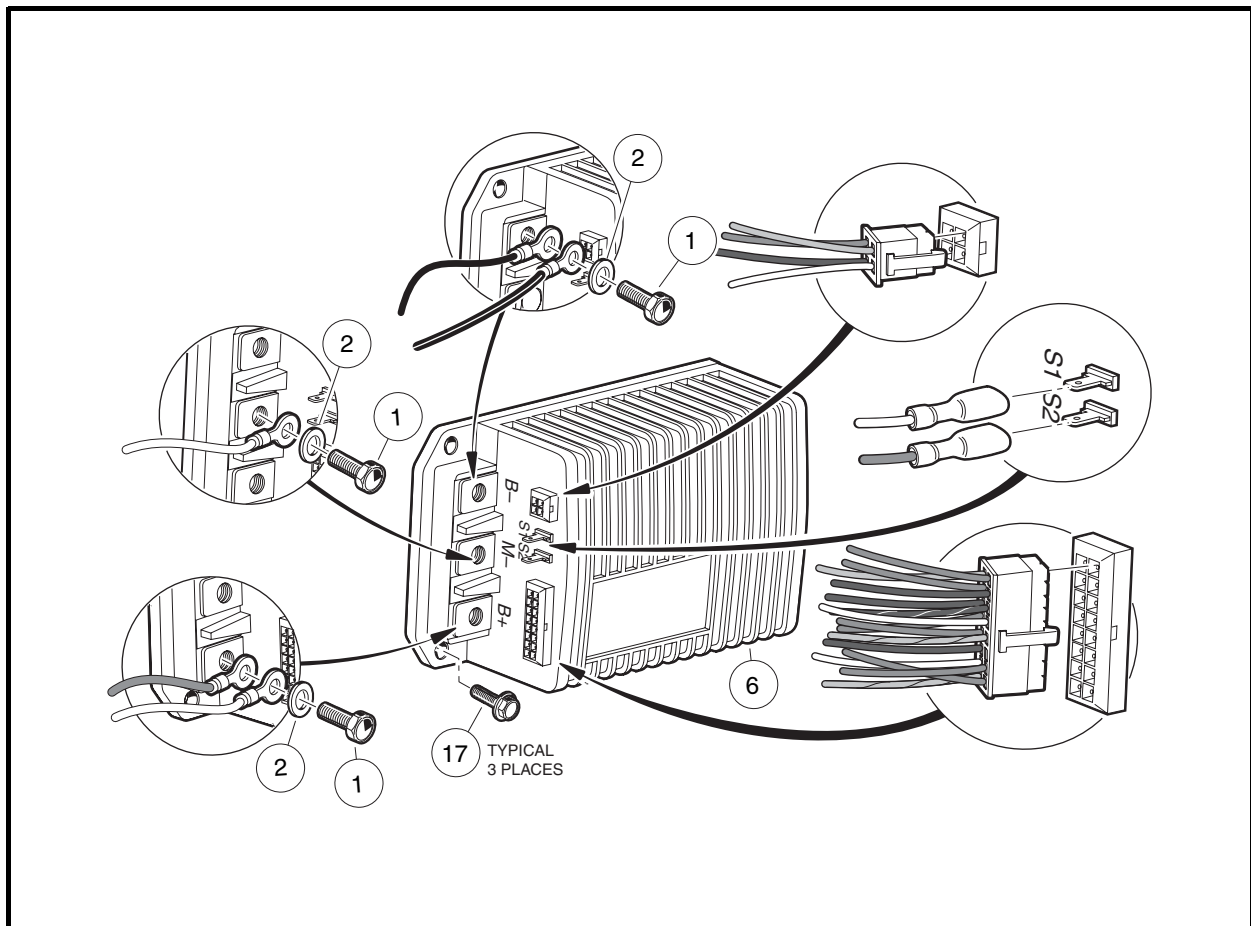

Figure 13-8 Speed Controller
4. Disconnect all wires and multi-pin connectors from the speed controller (**Figure 13-8, Page 13-10**).
5. Remove the three self-tapping screws (17) that hold the controller (6) to the component mounting plate and remove the controller from the vehicle.
1. Install the three self-tapping screws (17) that hold the controller (6) to the component mounting plate and tighten to 60 in-lb (6.8 N·m) (**Figure 13-8, Page 13-10**).
2. Using the wiring diagram, install the multi-pin connectors and all wires as illustrated. **See Wiring Diagram, Section 11, Page 11-11**. Tighten bolts (1) to 9 ft-lb (12.2 N·m) (**Figure 13-8, Page 13-10**).